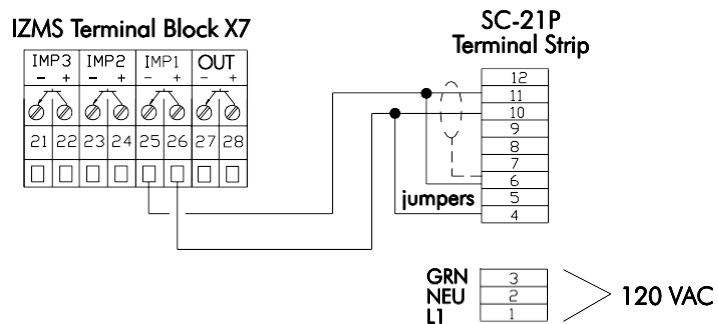

Figure 3-17. SC-21P Scaling Circuit Signal Wiring Configuration
- SC-21P Scaling Circuit (Figure 3-17)